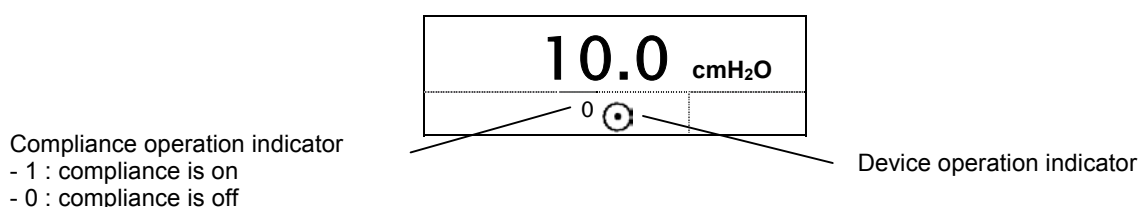

Figure 9 – View of the display when the device is running
**Breathe normally.** The display shows the pressure available in the mask as well as the operation indicator (see Figure 9 – View of the display when the device is running).